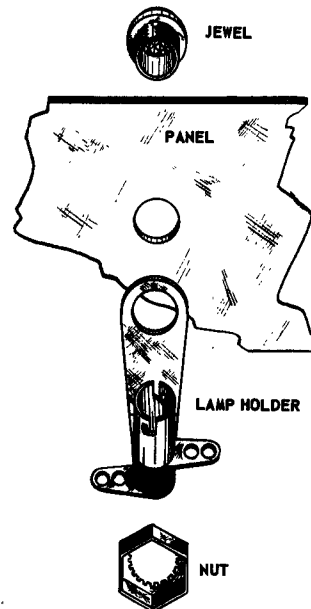

Figure 8.
- 49. Remove the green jewel from pilot light assembly PL-1 by removing the 7/16" hex nut. Insert the threaded shank of the jewel through the appropriate panel hole from the front of the panel. Slip the pilot light socket bracket over the threaded shank of the jewel (rear side of panel). Add the 7/16" hex nut, position assembly properly and tighten the nut securely. See Fig. 8.